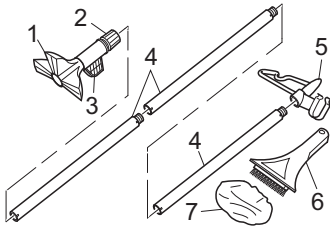

Fig. 16
2. Screw the individual screw-in insert tubes (Fig. 16/4) into each other.
3. Screw the clothes hook (Fig. 16/5) onto the upper end of the screw-in insert tube.
4. Push the stand (Fig. 16/1) onto the lower end of the screw-in insert tube. Screw the clamping screw (Fig. 16/2) in tightly.
7. Push the textile maintenance nozzle (Fig. 16/6) onto the handle of the Vaporflex.
Use the cotton cover (Fig. 16/8) if necessary to remove hair and fluff better from the piece of textile.